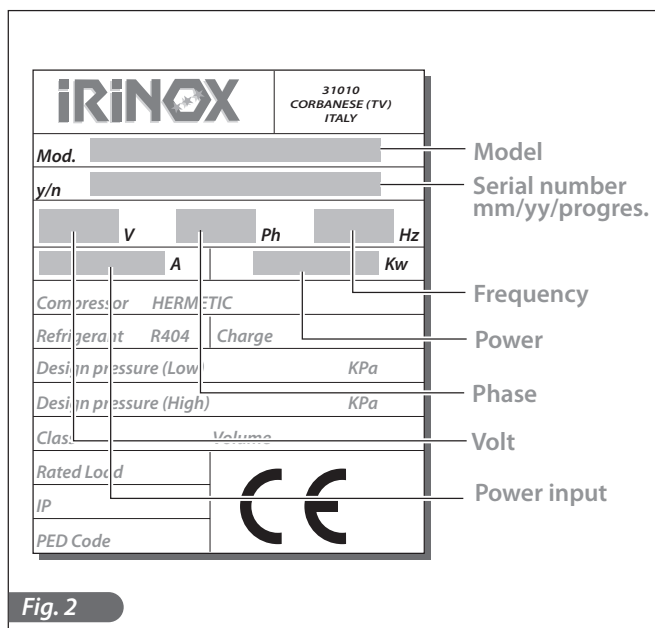

Fig. 2
- The plate with the characteristics of the unit is found on the right side of the conservation unit (fig.2) and under the control panel.